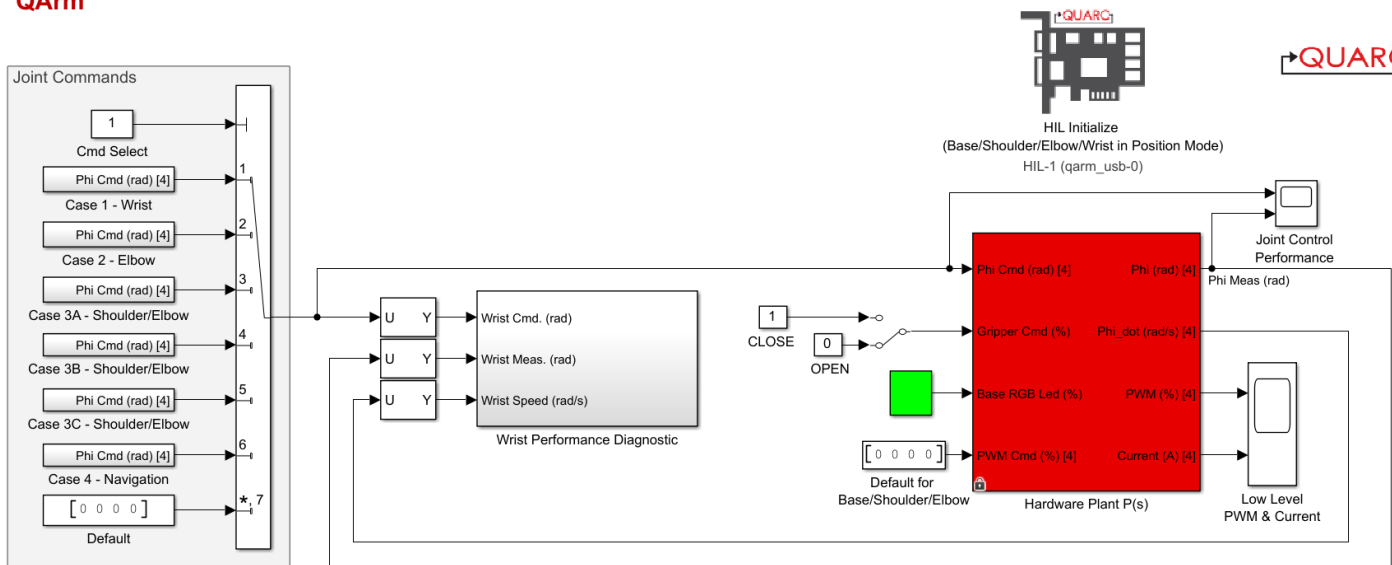

Figure 13: Simulink model for QArm in position mode
1. Open the Simulink model LowLevelControlNonLinearEffects.slx (Figure 13). In this part of the lab, you will study the cross coupling effects of the QArm joints when the position command is close to the unique cases mentioned in the Concept Review.